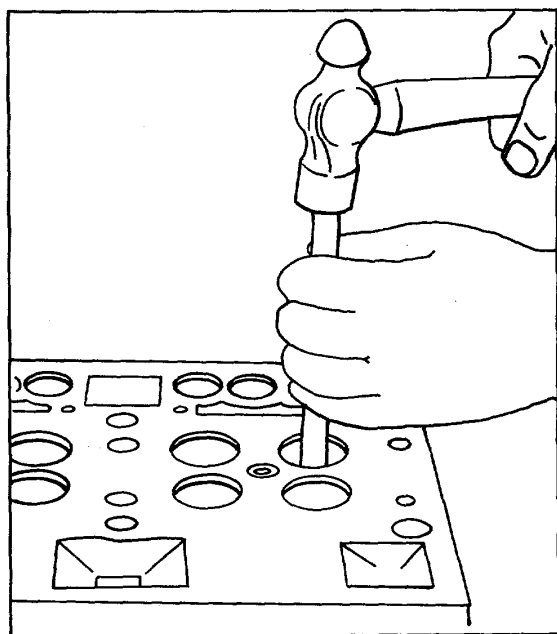

Figure 5. Removing Valve Guide
3. Drive the valve guide out of the cylinder head with valve guide remover J 7775 as shown in Fig. 5.